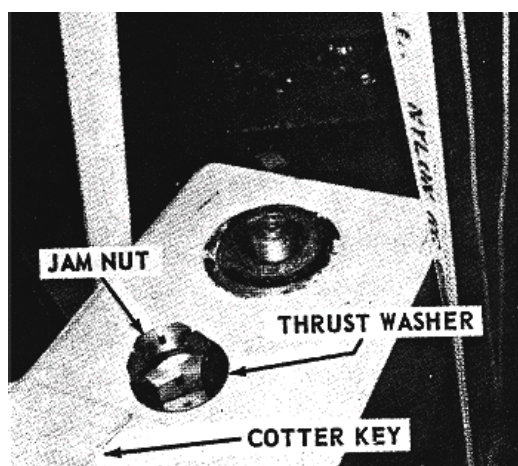

FIGURE 9-117.
b. Support yoke with a hoist or lift truck. Then remove king pin dust cover, cotter pin, jam nut, and thrust washer (see figure 9-117).